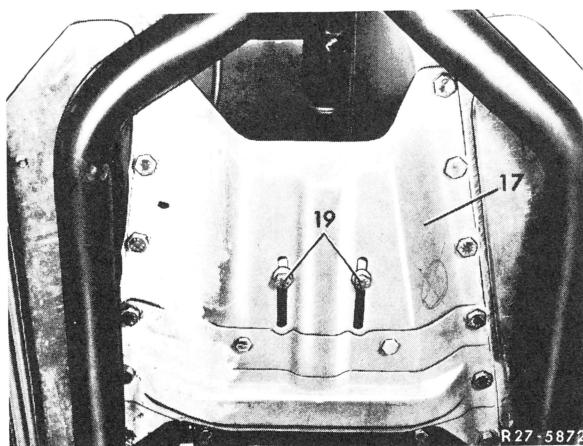

Fig. 1
- 2 Slightly raise engine-transmission unit with top for pit lift, unscrew both fastening bolts (19) for rear engine mounting, loosen 12 bolts of tunnel closing plate (17) and remove (Fig. 1).
29 Screw-on rear half of tunnel closing plate (17) (Fig. 1).
30 Screw-in both fastening bolts (19) for rubber mount on end plate and tighten (Fig. 1). Lower pit lift.